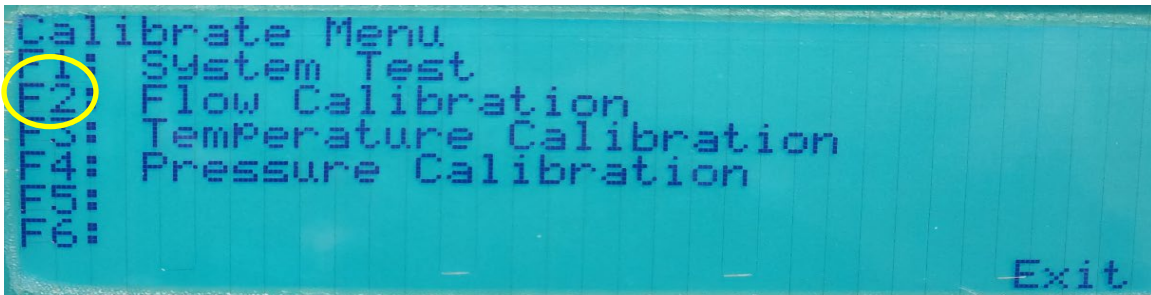

Figure 21: Calibration Menu
**3.4.2** Press "F2" in the Calibration menu to reach the Volumetric Flow Calibration screen (Figure 21).